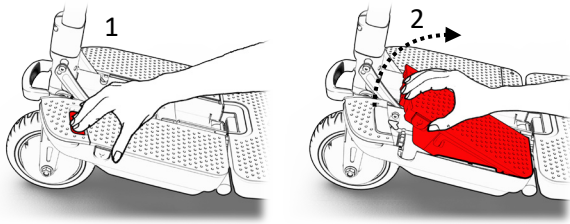

Figure 57
To remove the battery from ATTO, press the release button (1) and pull the battery out (2). (see Figure 57).